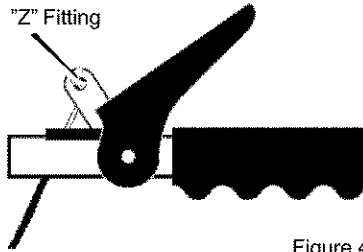

Figure 43
**To check for correct adjustment, unhook "Z" fitting at clutch lever (see Figure 43).**